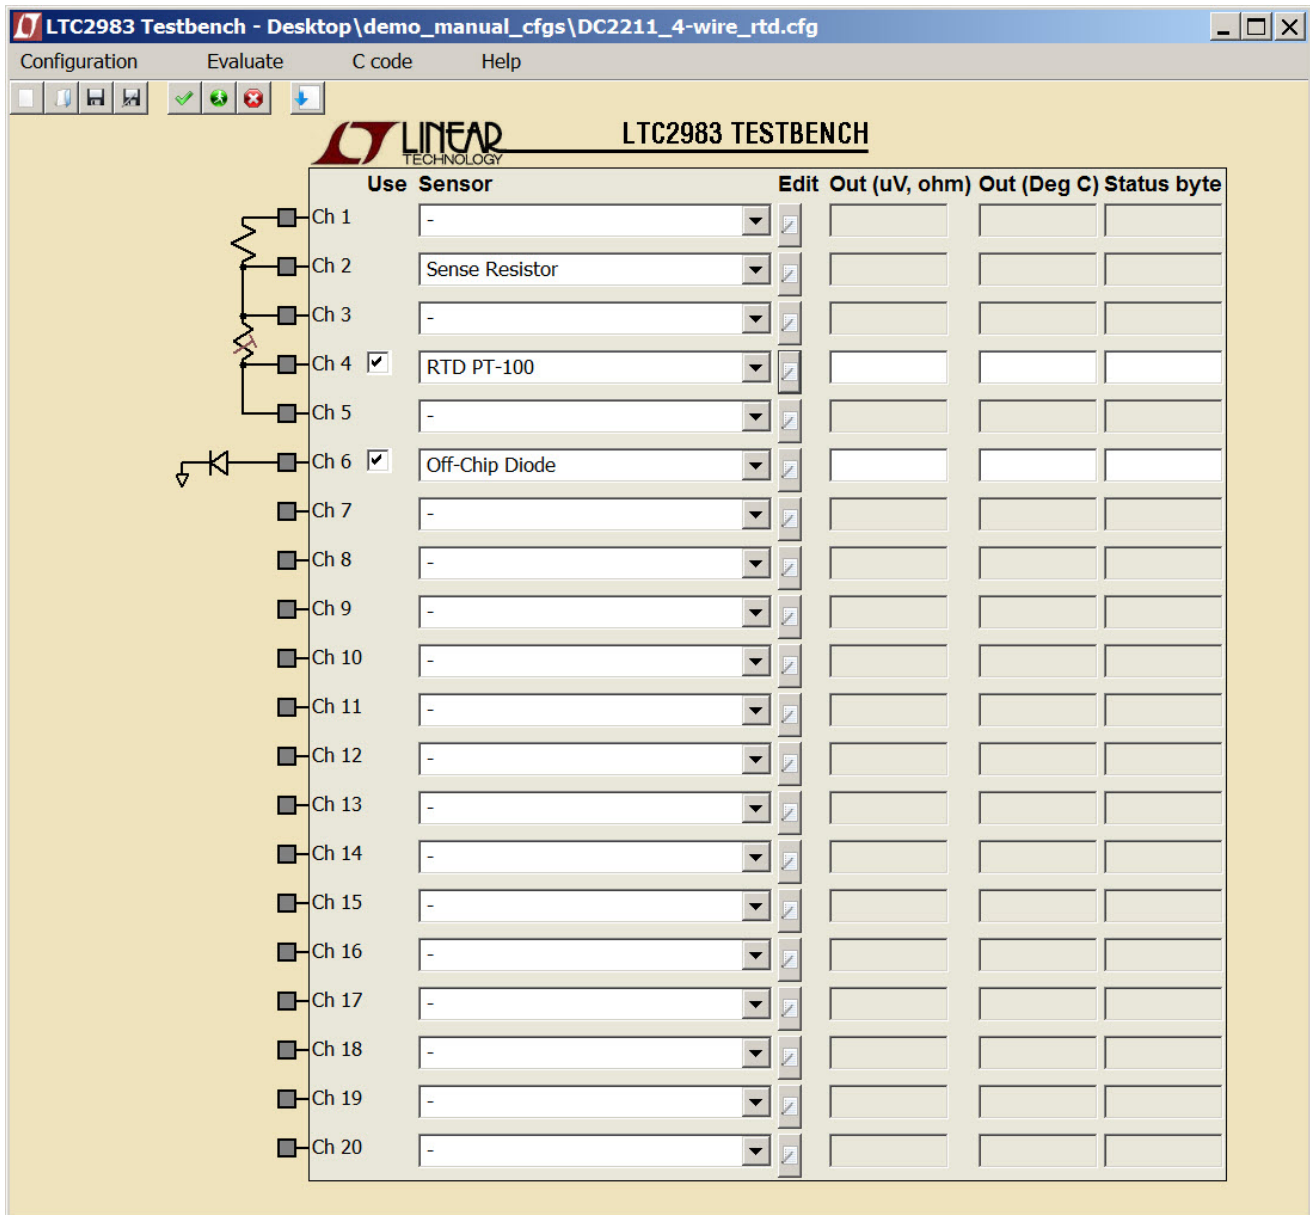

Figure 8b. DC2211 4-Wire RTD Software Configuration
- A 4-wire RTD connected to positions A-D using the on-board sense resistor as the ratiometric reference (see Figure 7b for the schematic and Figure 8b for the corresponding software configuration).